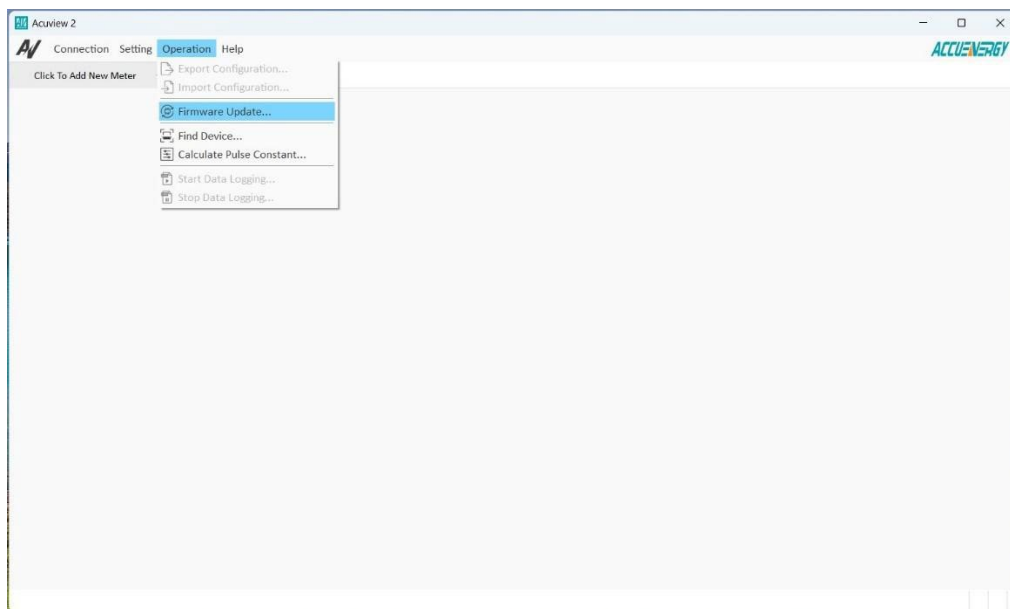
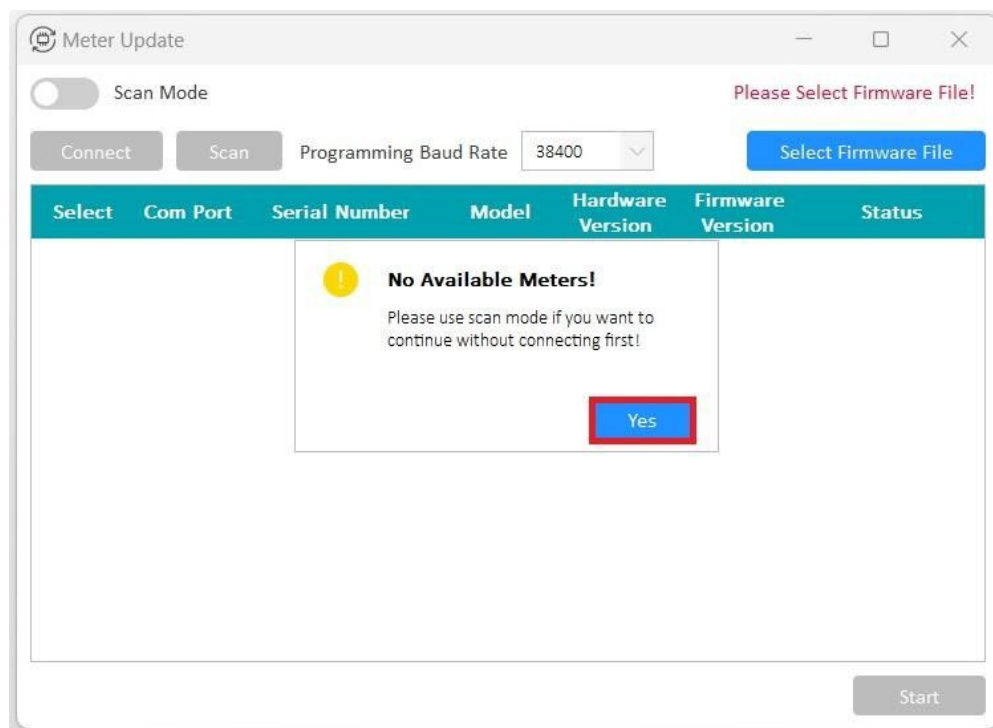

Figure 2
Figure 3
Step 3: Select Operation from the menu bar at the top side of the software, then select Firmware Update... to open the Meter Update window as shown in figure 2 below. The “No Available Meters!” message shows as show in figure 3 and click “Yes”.